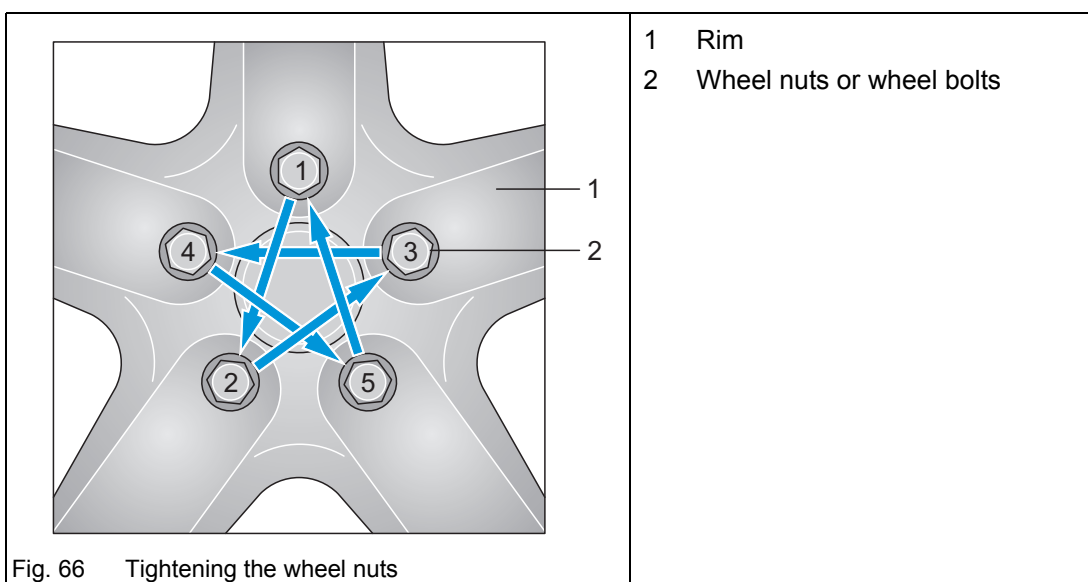

Fig. 66 Tightening the wheel nuts
- Tighten the wheel nuts or wheel bolts (Fig. 66/2) in the sequence 1 - 2 - 3 - 4 - 5.